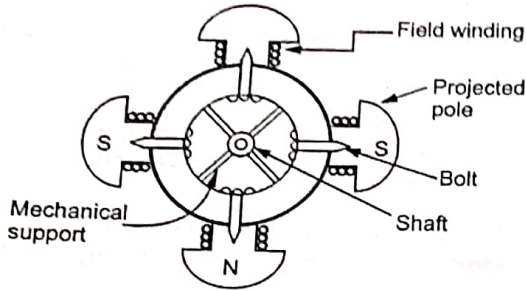

Fig. Q.71.2 Salient pole type rotor
- The poles are built up of thick steel laminations. The poles are bolted to the rotor as shown in the Fig. Q.71.2.